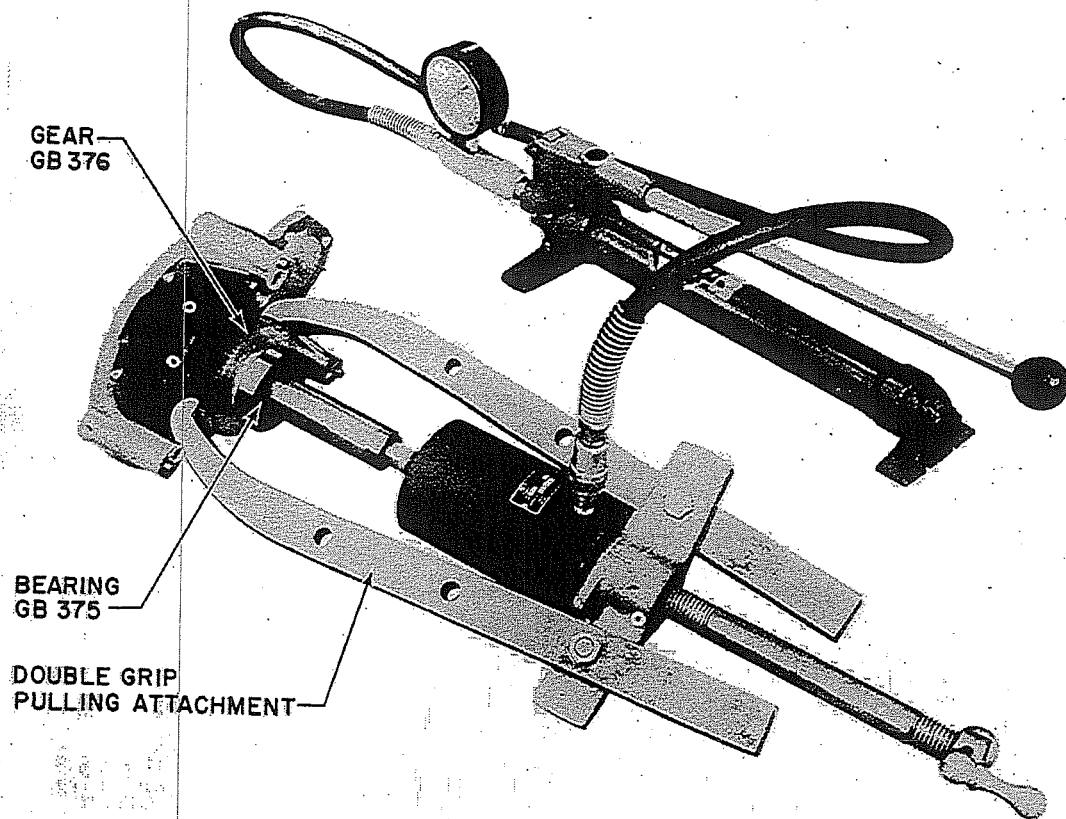

Figure 28. 1 to 1 Shaft, Removal of Gear GB376 and Bearing GB375
- H. Secure the double or triple grip pulling attachment behind Drive Gear GB376. The drive gear and bearing GB375 will be removed with approximately 4 tons of pressure applied to the 1 to 1 Shaft (figure 28).